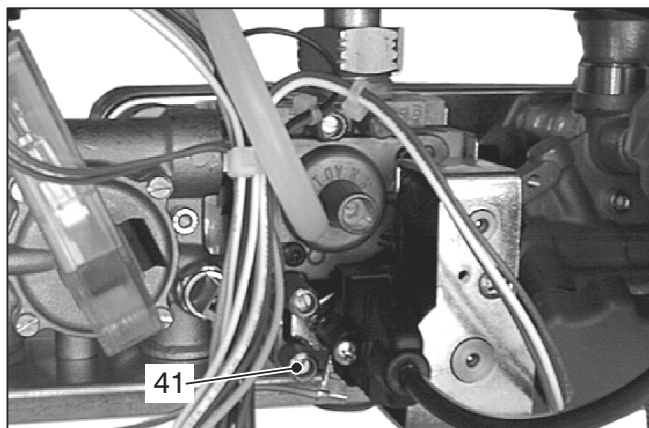

Fig. 7.5
9 Disconnect the pressure gauge and close the Inlet Pressure Test Point 41 (Fig. 7.5).
- 2 Loosen the internal screw on the Inlet Pressure Test Point 41 (Fig. 7.5) of the Gas Valve and connect a pressure gauge using a suitable hose.